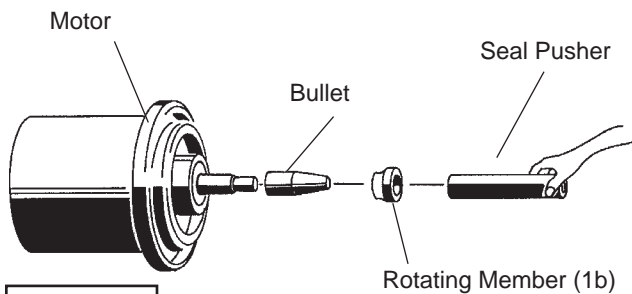

FIGURE 7
Slide retaining ring (1d) over shaft and let rest on bearing (21). Place spring (1c) over shaft and let rest on retaining ring (1d). Lightly oil (**DO NOT use grease**) shaft, bullet and inner surface of bellows on rotating member (1b), (see Figure 7), with lapped surface of rotating member (1b) facing outward, slide over bullet and onto shaft using seal pusher, making sure spring (1c) is seated in retaining ring (1d) and spring (1c) is lined up on rotating member (1b) and not cocked or resting on bellows tail.